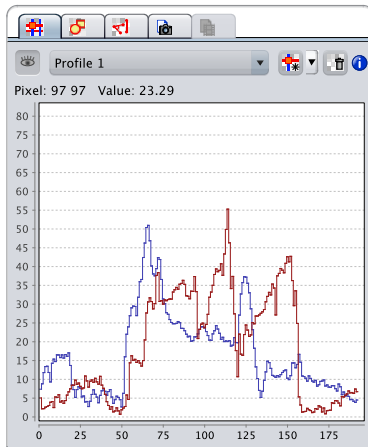

Figure 1.135: Scans and Profiles Tool
- The Scans and Profiles tool opens (see Figure 1.135 [▶ 157]).